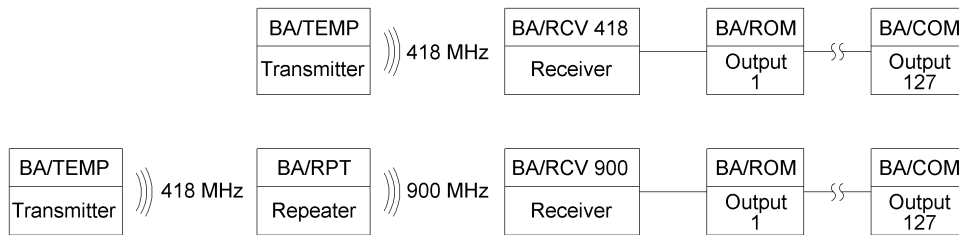

Figure 1: Wireless system Diagrams
5. Install provided batteries and follow polarity as shown above in figure 1 or damage may occur. The unit will work on just one battery however the battery life will be cut in half.
3. Remove the cover of the transmitter and remove the battery tabs or install the batteries, observe polarity or damage to the unit may occur. The small LED at the bottom right of the circuit board, next to the setpoint (see Figure 1), should flash approximately once every 10 seconds, indicating a transmission. (The flash is very quick.)
3. Remove the cover of the transmitter and remove the battery tabs or install the batteries, observe polarity or damage to the unit may occur. The small LED at the bottom right of the circuit board, next to the setpoint (see Figure 1), should flash approximately once every 10 seconds indicating a transmission. (The flash is very quick.)
3. Remove the transmitter cover and remove the battery tabs or install the batteries, observe polarity or damage to the unit may occur. The small LED at the bottom right of the circuit board, next to the setpoint (see Figure 1), should flash approximately once every 10 seconds indicating a transmission. (The flash is very quick.)